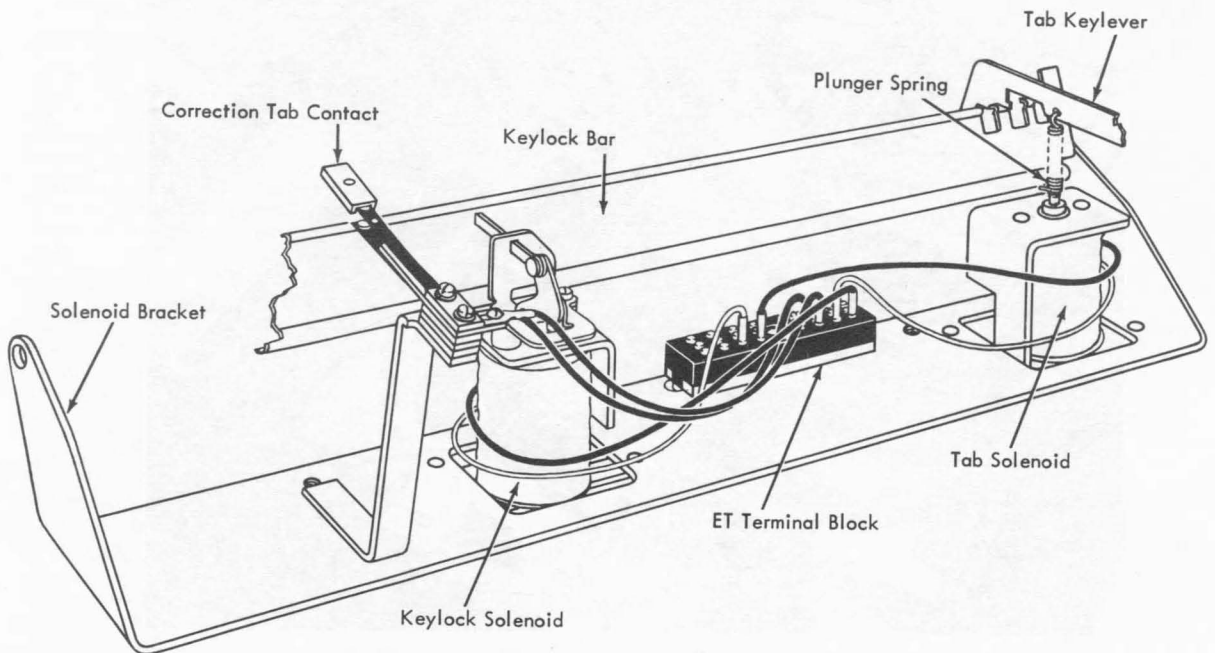

Figure 69. 884 Solenoids and Correction Tab Contact
1. Loosen the two screws in the tab solenoid yoke and position the solenoids so that the spring link does not bind the keylever (Figure 69). The bottom front cover should be on the machine during this adjustment.
Lubricate lightly with IBM 6 the linkage operated by the keylock solenoid (Figure 69). Adjust the solenoid spring link so that the bottom of the plunger is flush with the bottom of the yoke when the keylock bar is under the locking surface of the keylevers by about $\frac{1}{8}$ ". For pin-guided solenoid adjustments, see page 39.
1. Loosen the two screws that hold the contact support to the solenoids support (Figure 69). Position the contact support so that: (1) the correction tab keylever is approximately centered with and touching the nylon insulator, and (2) there is no interference with the complete motion of the cam knockout bar. Form the contact support if necessary and lock the screws when the adjustment is completed.